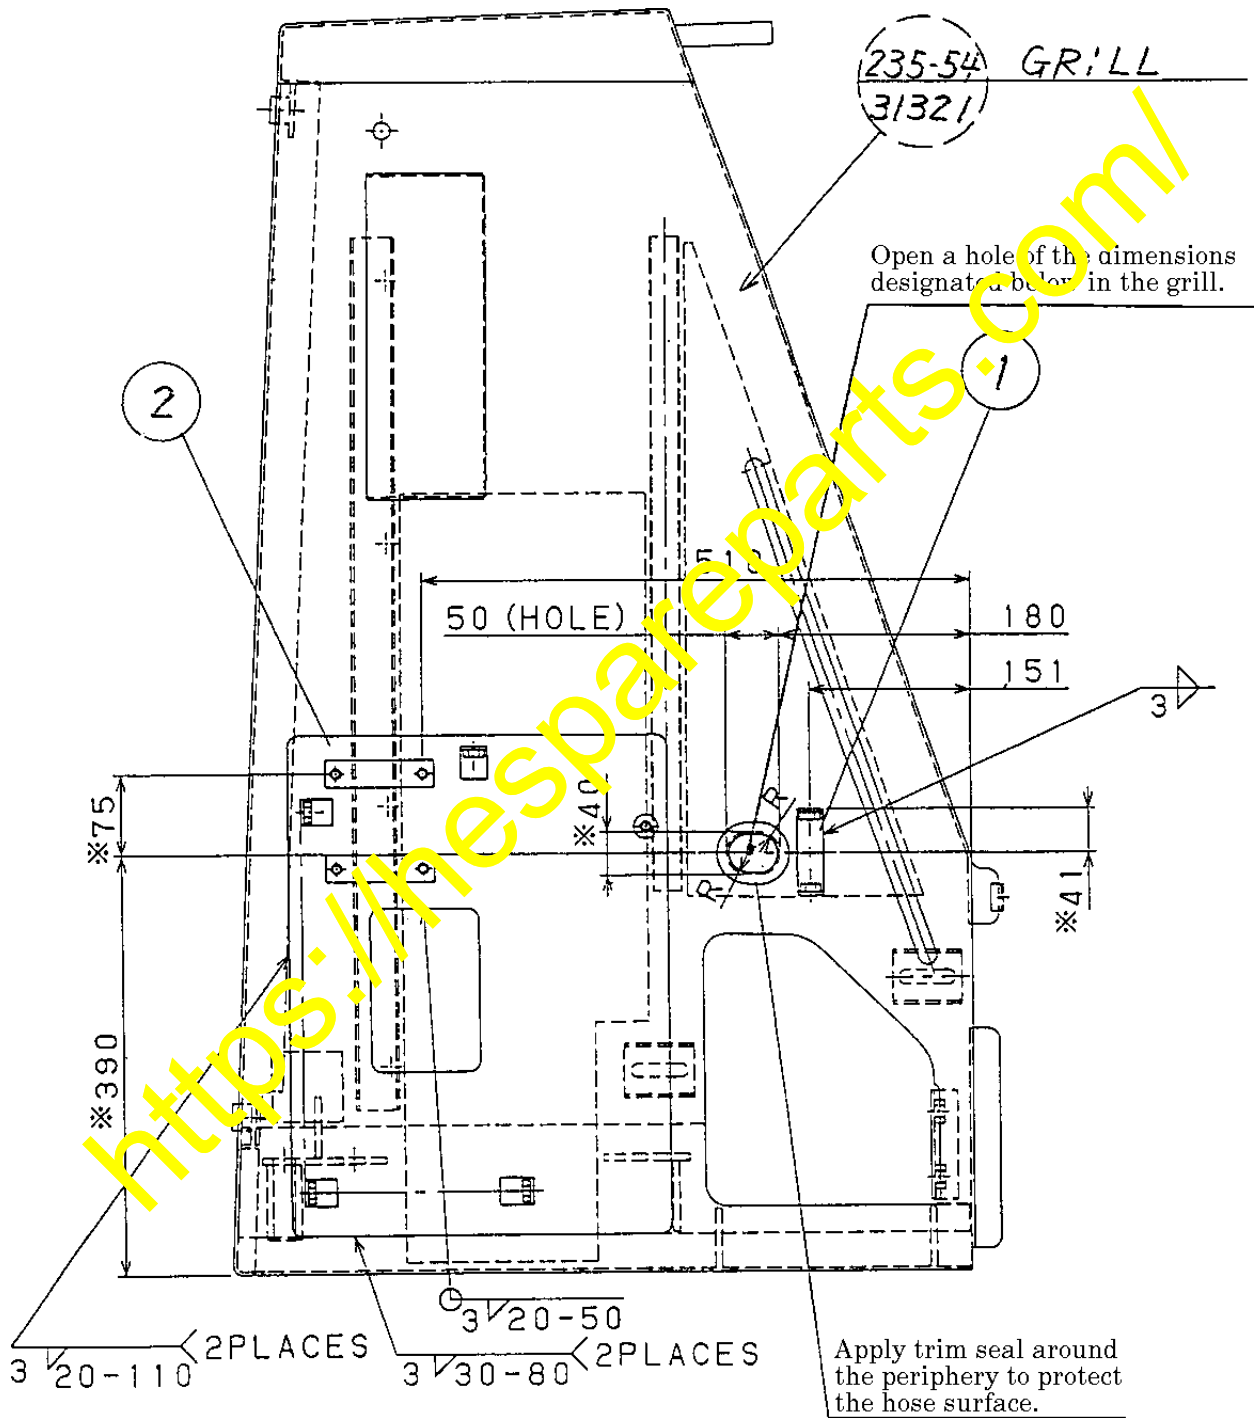

Fig. 1
(1) Reworking with the grill
Weld the parts ① and ② to the grill (RH side) according to the designations given in Fig. 1 below.